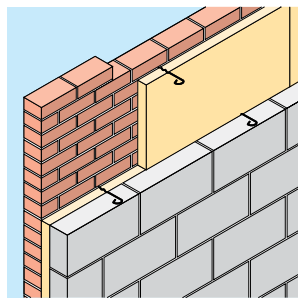
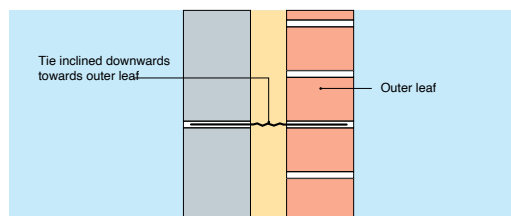

Figure 4
Figure 7
5. Fit Wilhams Cavity by compressing between the two rows of wall ties to form a clean and tight butt jointed course (Figure 4). Wall tie drips should be located centrally in the Batts (Figure 7). Ties must be inclined downwards towards the outer leaf.